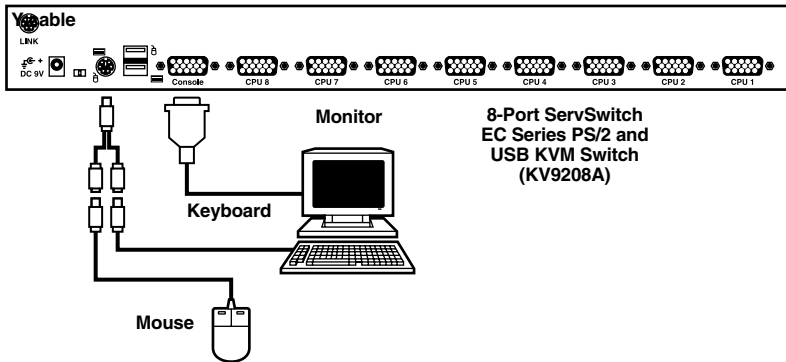

Figure 3-1. PS/2 console keyboard, mouse, and monitor connections.
the two USB Type A connectors labeled keyboard and mouse on the back of the ServSwitch. See Figures 3-1 and 3-2. For KV9204A, connect to USB keyboard, mouse, and monitor console ports.
3. Connect the HD15 VGA male connector from your monitor to the console VGA port on the back of the ServSwitch. See Figures 3-1 and 3-2.